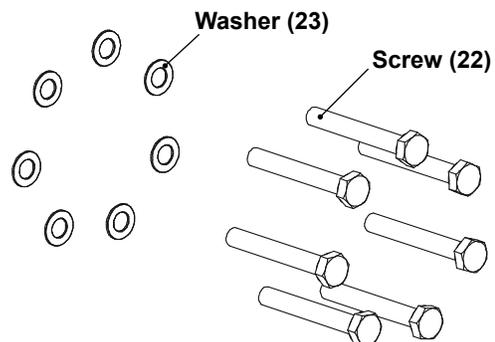

Figure 17, Washers & Screws
- Install *new* washers (23) onto the end cover screws (22). *See figure 17.*